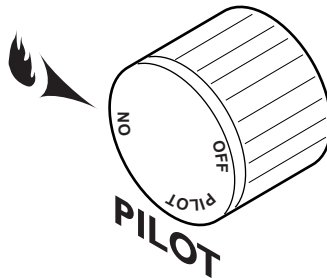

Figure 31 - On Position
Depress and turn the knob counterclockwise  to the “ON” position. *See Figure 31.* It will take less than four (4) seconds for the burner to ignite.